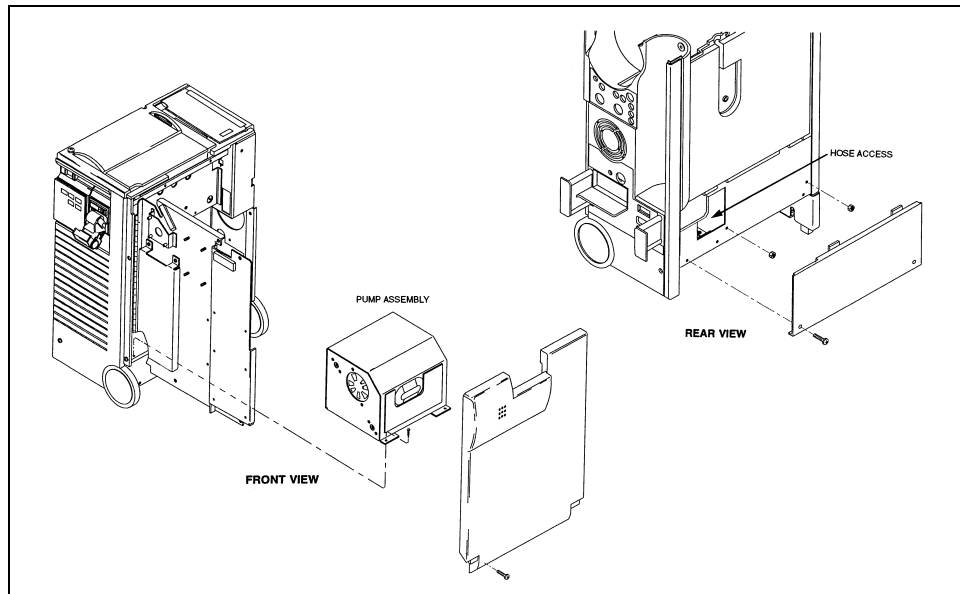

FIGURE 5-1 Pump Assembly Removal
1. (See Figure 5-1) Remove the System from the hospital cart. Remove the right side cover and the left lower cover from the System. Remove the two nuts at the rear of the pump compartment and remove the pressure and vacuum lines through the access hole provided. Remove the two screws at the base of the pump assembly and slide the pump housing out. Remove the 14 screws that retain the cover and remove the cover.
1. Remove the System from the hospital cart (See Figure 5-1). Remove the right side cover and the left lower cover from the System. Remove the two nuts at the rear of the pump compartment and remove the pressure and vacuum lines through the access hole provided. Remove the two screws at the base of the pump assembly and slide the pump housing out. Remove the 14 screws that retain the cover and remove the cover.